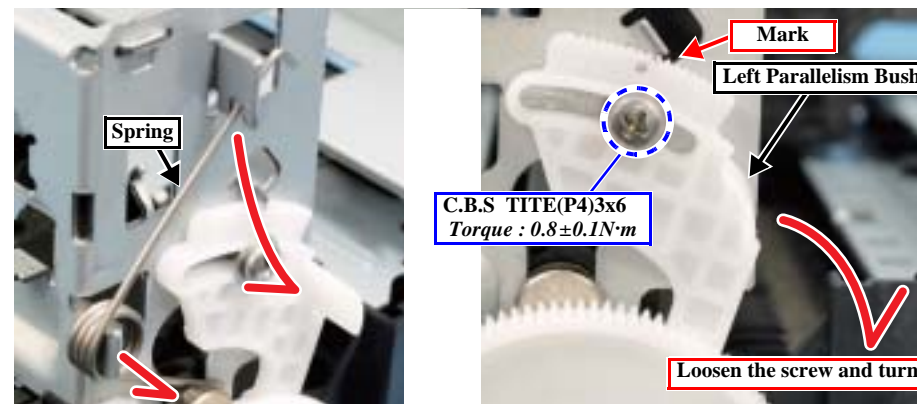

Figure 4-70. Removing the Carriage Assy (at left side)
10. At the left side of the printer, remove the spring, and mark the indicated graduation position of the Parallelism Bush. Then loosen the screw, and turn the Parallelism Bush toward the front. (Fig. 4-70)